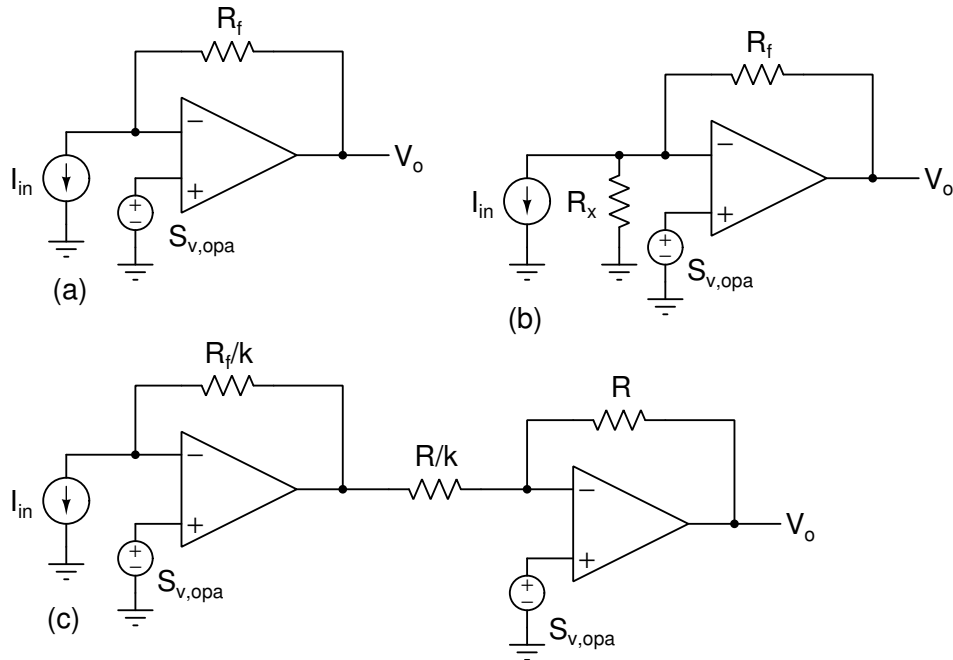

Figure 3.2: Problem 3.2: (a) Single-stage, (b) Single-stage with additional conductance between the virtual ground and ground, (c) Two-stage.
3.2. Fig. 3.2 shows three different transimpedance amplifier configurations. Determine the gain V_o/I_{in} and the input referred noise (referred to I_{in}) in these circuits. Briefly comment on the results. $S_{v,opa}$ is the input referred voltage noise spectral density of the opamp.